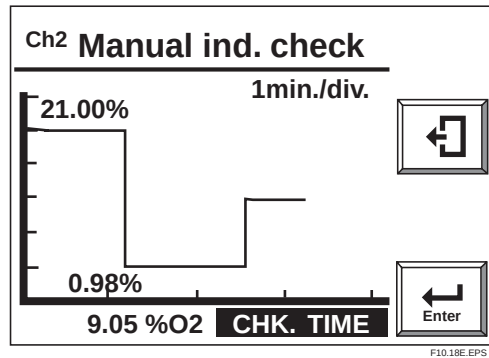

Fig.10.18 Third Gas Indication Check
- 16) Select [Start ind. check] and touch the Enter key. An oxygen concentration graph like Figure 10.18 is displayed, and [CHK.TIME] status mark flashes. Wait for the graph measured value trace to stabilize. Compare the measured third gas concentration displayed at the lower left of the display against the certified concentration of third gas to check for any discrepancy or error.